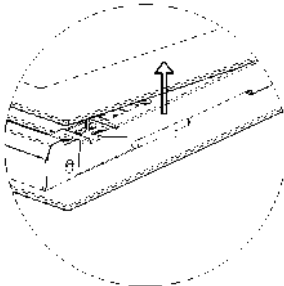

Figure 3
2. To drive up ② pointed tool bilaterally so that loosen the inside glass, as shown in figure 3.